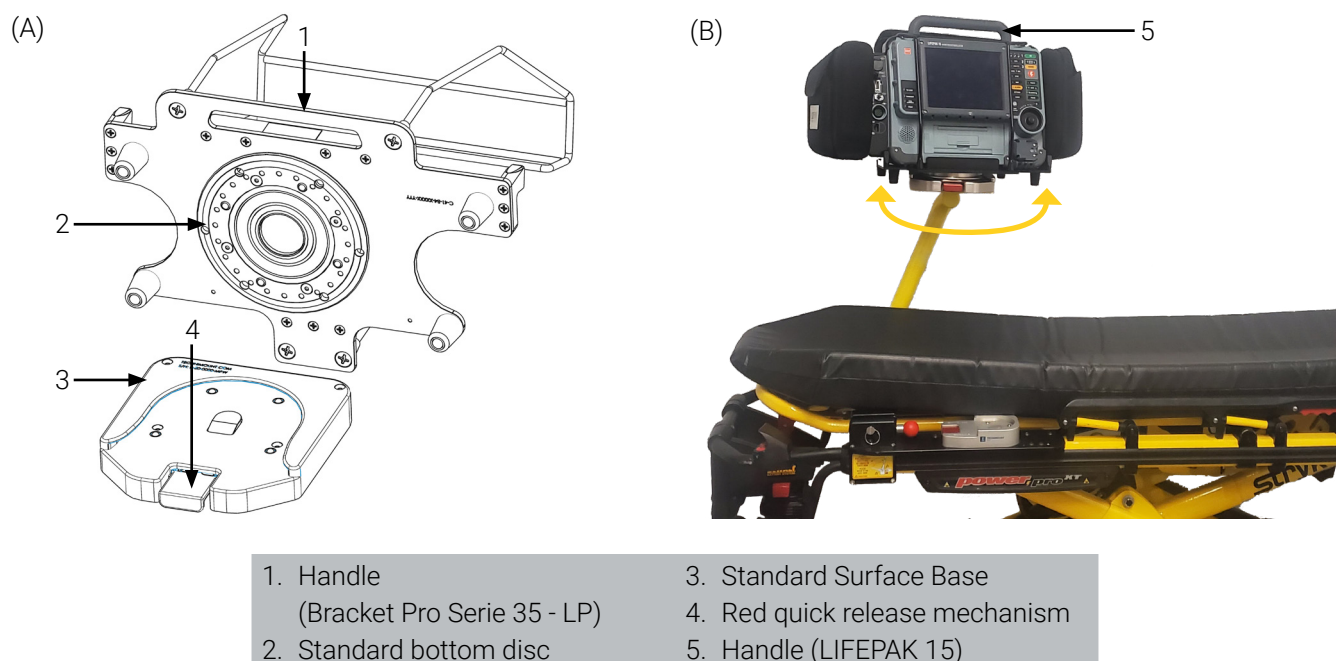

Figure 1: Installation of the Bracket Pro Serie 35 - LP on the Standard Surface Base
1. With one hand, grab the LIFEPAK 15 handle and with the other the Bracket Pro Serie 35 - LP handle (Figure 1 A).
5. Turn the medical device clockwise or counterclockwise, to the desired position (Figure 1 B).